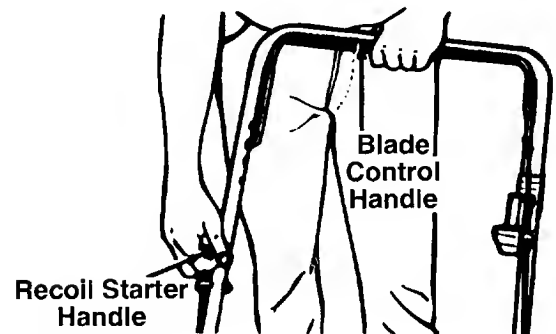

FIGURE 6.
4. Standing behind the unit, depress the blade control handle and hold it against the upper handle as shown. See figure 6.